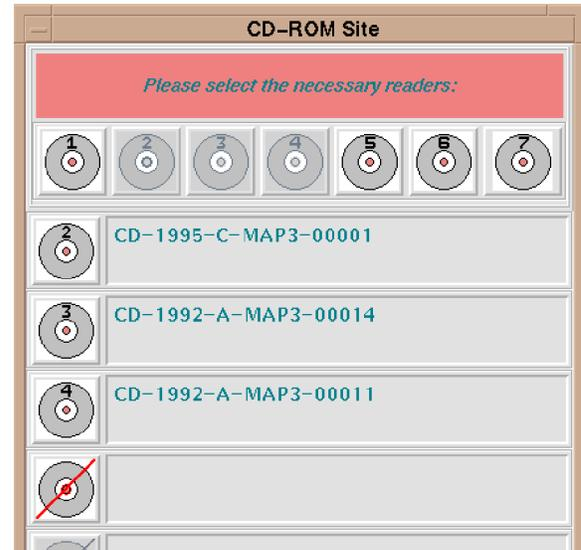

Fig. 77 — **CD-ROM Site Window**: titles listed for selected CD readers
- 4) Select *Scan Readers* (in the lower-left corner of the window); MMC will list the titles of the CDs on the selected readers (Fig. 77).